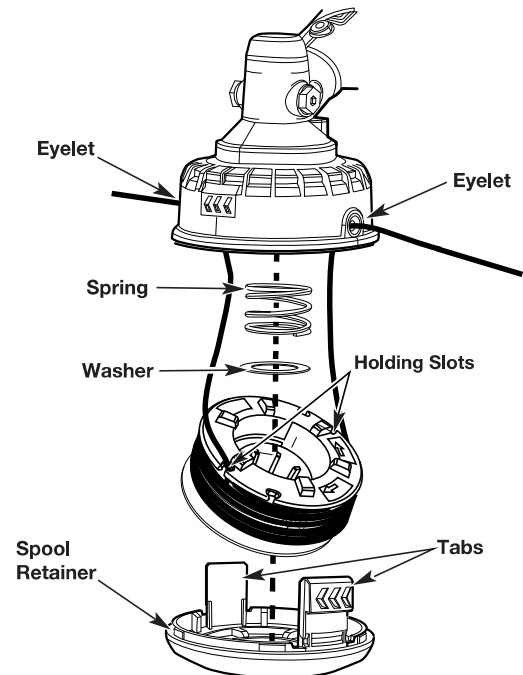

Fig. 15
1. Push in the tabs on the side of the spool retainer and pull to remove (Fig. 15).
5. Install the spool retainer by pressing the tabs into the slots and pushing down on the spool until the spool retainer clicks into place (Fig. 15).
6. Position the lines in the spool holding slots (Fig. 15).